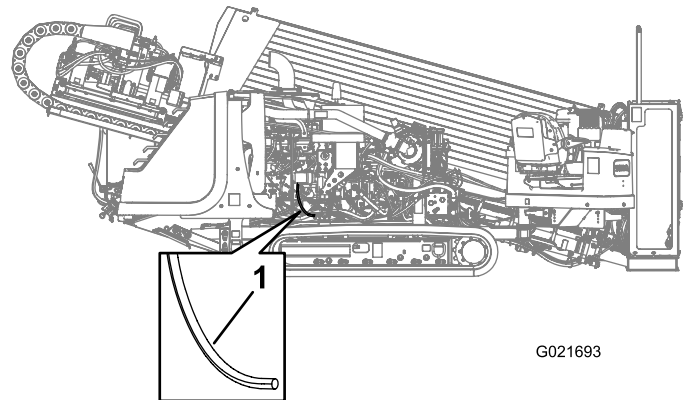

Figure 77
3. Gently pull the crankcase-vent tube out (Figure 77).
4. Clean the end of the crankcase-vent tube (Figure 77).